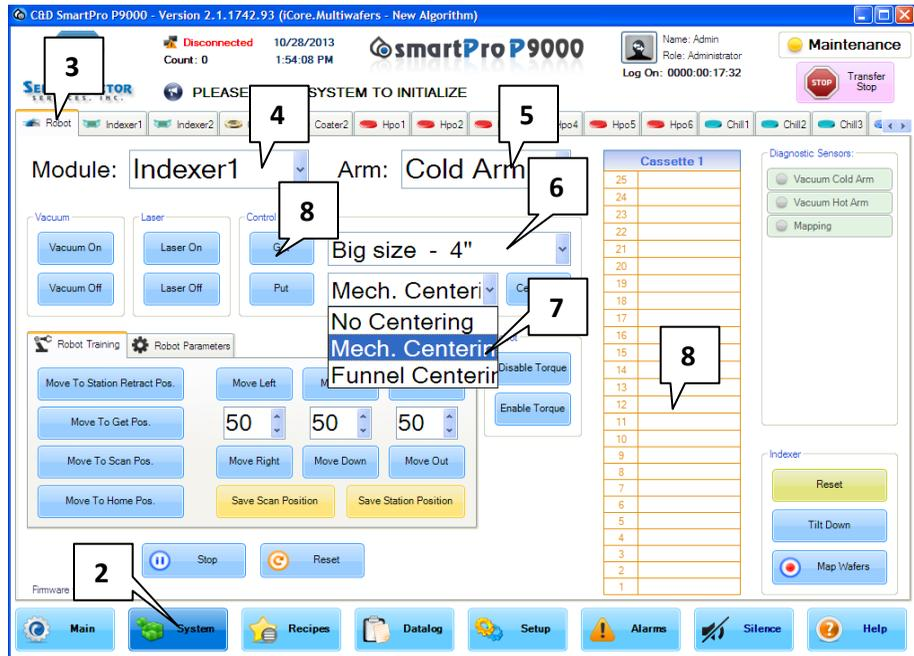

FIGURE 6-8: Centering the Coater module
9. Under Control, click **Get**. The Robot moves to the Get position to pick up the wafer from the selected slot on the cassette. Figure 6-8 illustrates Steps 1 through 9
10. From the top of the page, click the Robot tab to return to the Robot page. Refer to Figure 6-8.
5. From the top of the System page, click the Robot tab to open the Robot page. Refer to Figure 6-8.
2. Click **OK** on the message. The Robot page opens. Refer to Figure 6-8.